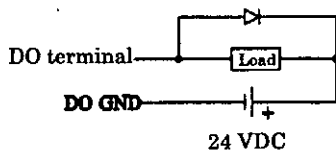

Fig. 10.13 Surge Voltage Suppression by a Diode
- When connecting an inductive load, connect a diode in parallel to the load not to cause an excessive output terminal voltage (Fig. 10.13). The maximum voltage rating is 35 V.